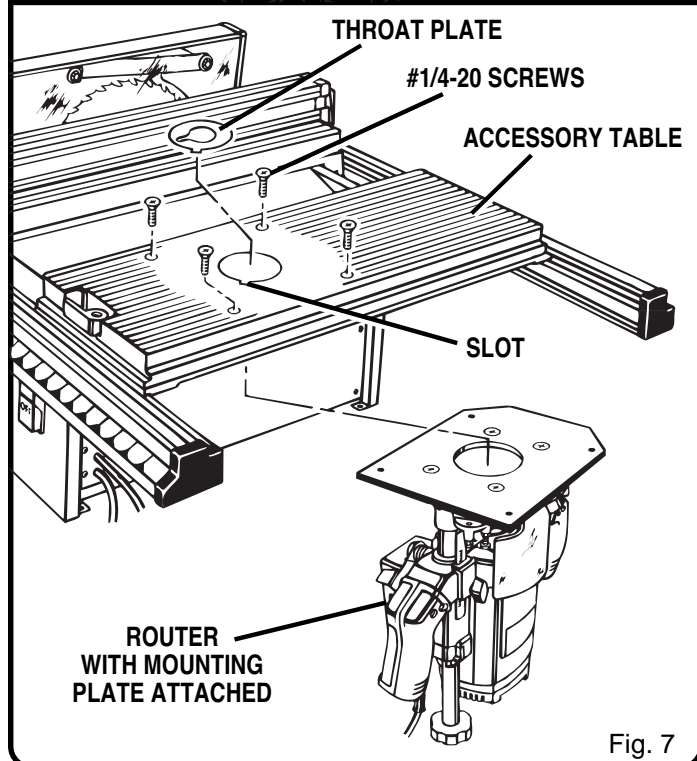

Fig. 7
See Figure 7.
1. Place mounting plate under accessory table as shown in figure 7. **Note:** If desired you can remove accessory table, attach mounting plate with router, then reassemble complete assembly to your saw.
Orient the throat plate as shown in figure 7, align tab with slot in accessory table, then place throat plate in recessed area of accessory table. **Recheck router bit to make sure it will not strike the throat plate.**